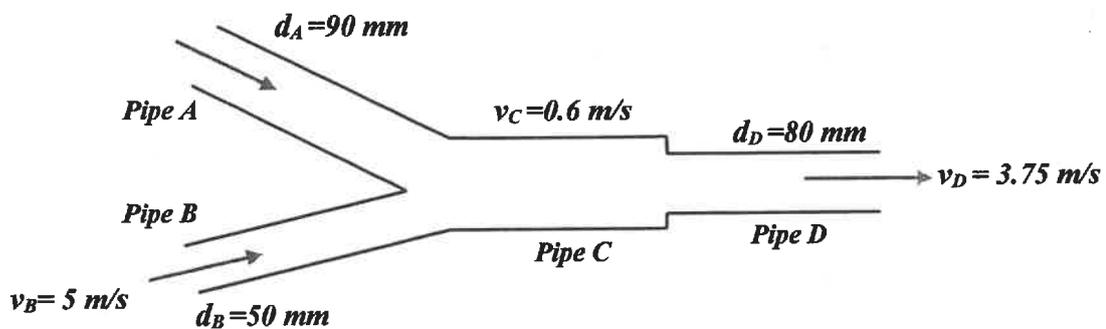

Figure 2
- (a) Figure 2 shows a water supply system with water flowing into pipes A and B and discharging from pipe D. The velocity of water entering pipe B is 5 m/s, while the velocity of water leaving pipe D is 3.75 m/s. The diameters of pipes A, B, and D are 90 mm, 50 mm, and 80 mm, respectively. Determine: